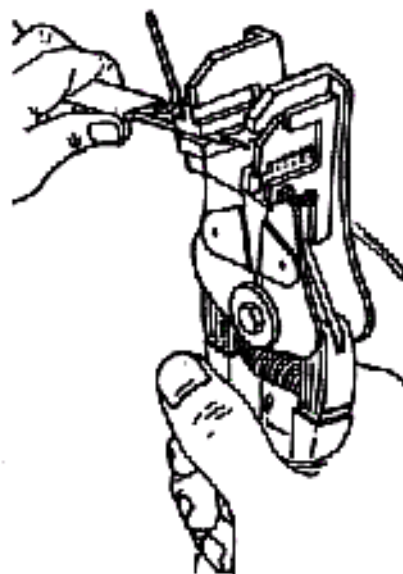

Figure 5. Multi-conductor Insulation Removal
b. Insert the wire into the correct stripping die to strip $3/8 \pm 1/16$ inch of insulation. Squeeze the handles as far as they will go to strip insulation (see Figure 5 and paragraph 7).